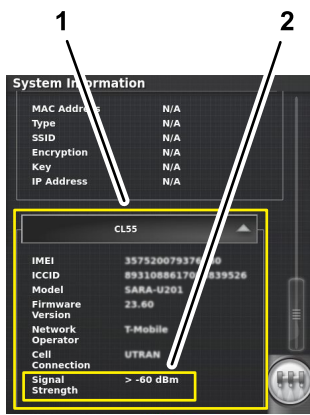

Figure 285
- In the system information screen, use the scroll bar to navigate to the CL55 icon (Figure 285).
3. Press the CL55 icon to display the signal strength information.(Figure 285), and verify that the modem signal strength is between -60 dBm and -99 dBm.